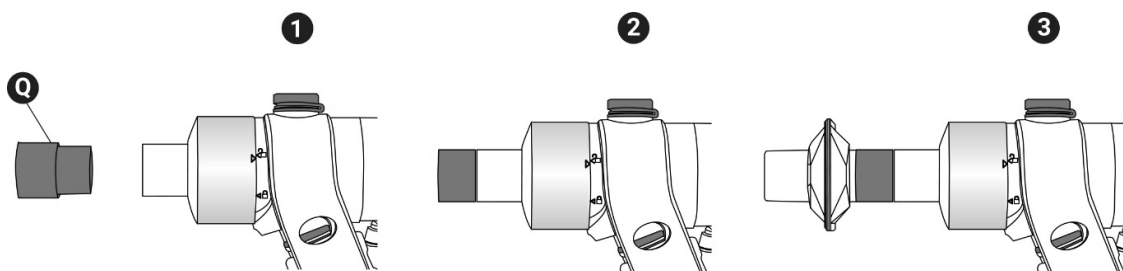

Figure 4: Fitting MIP/MEP Adaptor
MEP Adaptor must first be attached to Patient Valve, with a BVF then attached to the other end of MIP/MEP Adaptor (Figure 4).
Q	MIP/MEP Adaptor (Figure 4)
13. If a Maximal Inspiratory Pressure (MIP) or Maximal Expiratory Pressure (MEP) test are performed, MIP/MEP Adaptor (Q) must be attached to the Patient Valve, with a BVF then attached to the other end of MIP/MEP Adaptor (Figure 4).